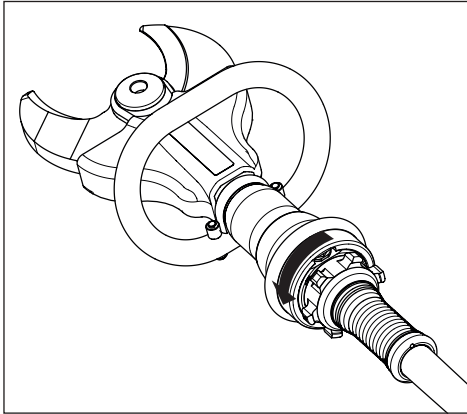

Figure 6, Cutter Open
- To open the blades: Rotate the knob to the left and hold it in place. See Figure 6.